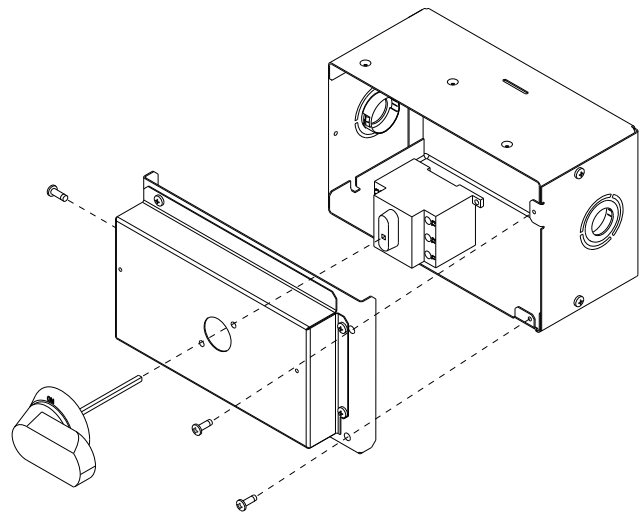

Fig. 29 — NFD Handle and Shaft Assembly
2. Remove (3) cap head screws that secure the NFD enclosure front cover — (2) on the face of the cover and (1) on the left side cover. See Fig. 29.
5. Insert the shaft with the cross pin on the top of the shaft in the horizontal position. See Fig. 29.
10. Secure the handle to the painted cover with (2) screws and lock washers supplied.
11. Engaging the shaft into the handle socket, re-install (3) hex screws on the NFD enclosure.